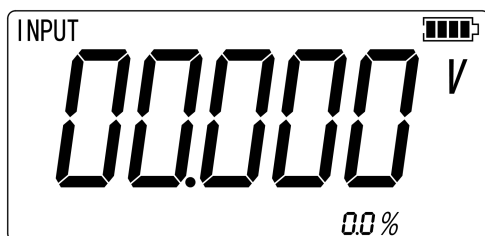

Figure 2.1-4
4. Then the default interface of boot will be displayed as shown in Figure 2.1-4: